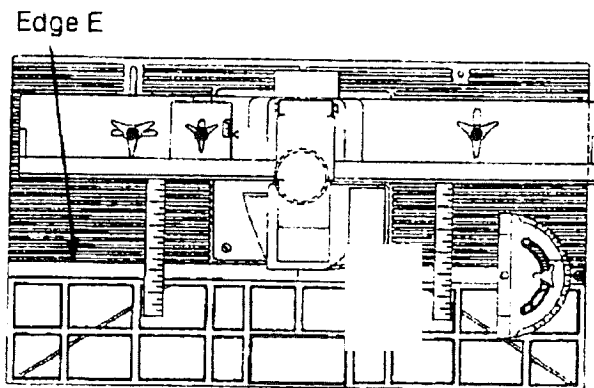

FIGURE 24.
1. Measure distance from each end of unitized fence to edge "E" of miter bar slot on the table as shown in Figure 24. If both distances are the same, the fence is parallel to miter bar slot. If not, loosen large knobs and adjust fence accordingly. Tighten both knobs.
2. Position miter gauge on table as shown in Figure 24.
WHEN ROUTING, ALWAYS FEED AGAINST THE ROTATION OF THE CUTTER. FEED WORKPIECE IN THE DIRECTION SHOWN BY THE ARROW. SEE FIGURE 24.